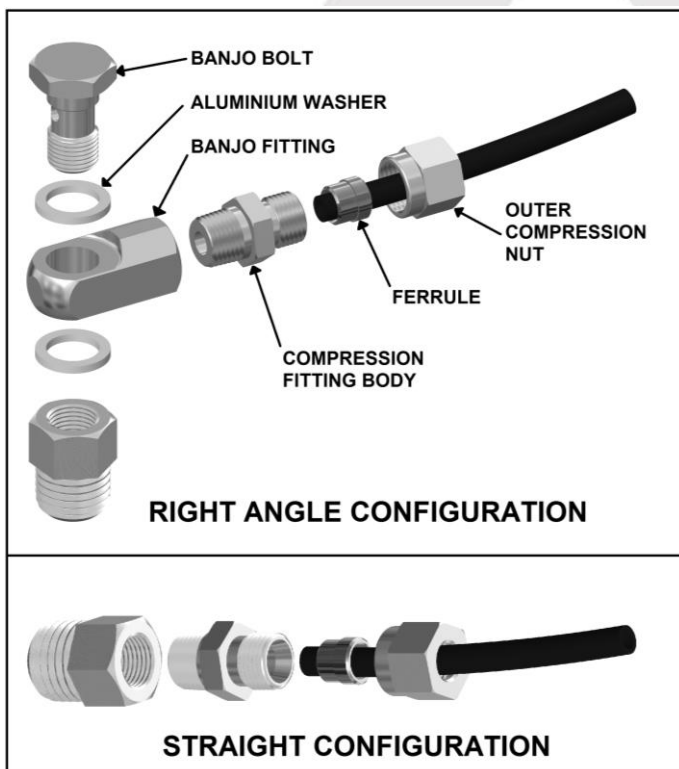

Figure 13.
- Assemble an aluminium washer onto the banjo bolt and insert through the banjo fitting. Assemble second aluminium washer and tighten into bulkhead fitting using a 14mm [9/16"] spanner. (Fig.13.)
- Insert the outer compression nut and ferrule over the air line. Ferrule should be orientated as per Fig.13.
NOTE : When right angle routing of the tube is not required, screw the compression fitting body straight into the bulkhead fitting body (Fig.13.).